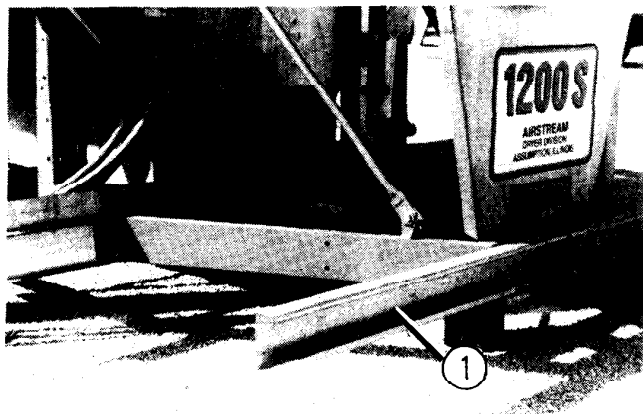

FIG. 2 - MAIN SUPPORT CHANNEL INSTALLATION
- E. Loosely connect the main support channel (No. 1, Fig. 2, D61-0059) to the front end of the dryer hitch weldment as shown in Fig. 2. Use four 1/2" x 1 1/2" bolts with washers